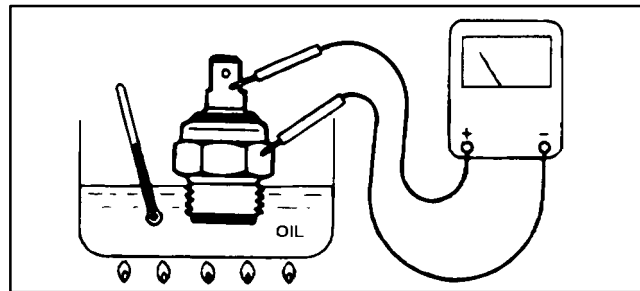

Figure 17
2. Put switch in a container of oil with a thermometer and slowly heat the oil (Fig. 17).